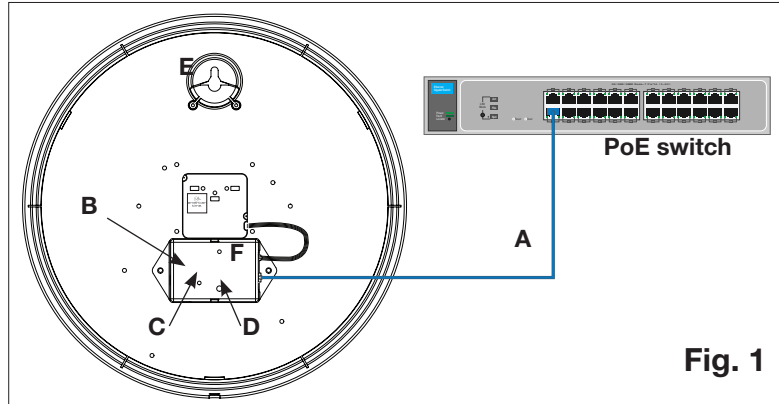

Fig. 1
1. Apply power to the clock by connecting a CAT 5 (A) or higher Ethernet patch cable from a PoE switch (Fig. 1) or single injector (Fig. 2) to the PoE receiver (F).
2. The Status LED (B) will indicate the clocks status as follows:
1. Apply power to the clock by connecting a CAT 5 (A) or higher Ethernet patch cable from a PoE switch (Fig. 1) or single injector (Fig. 2) to the rear panel of the PoE clock. The time should display in less than one minute.